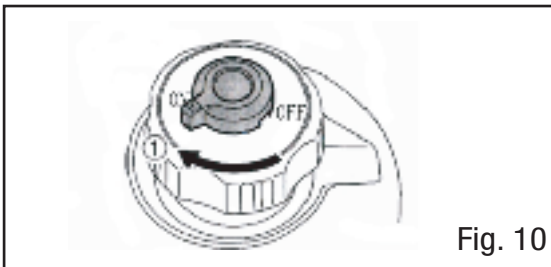

Fig. 10
1. Turn the LOW IDLE switch to the “OFF” position. (Fig. 10)